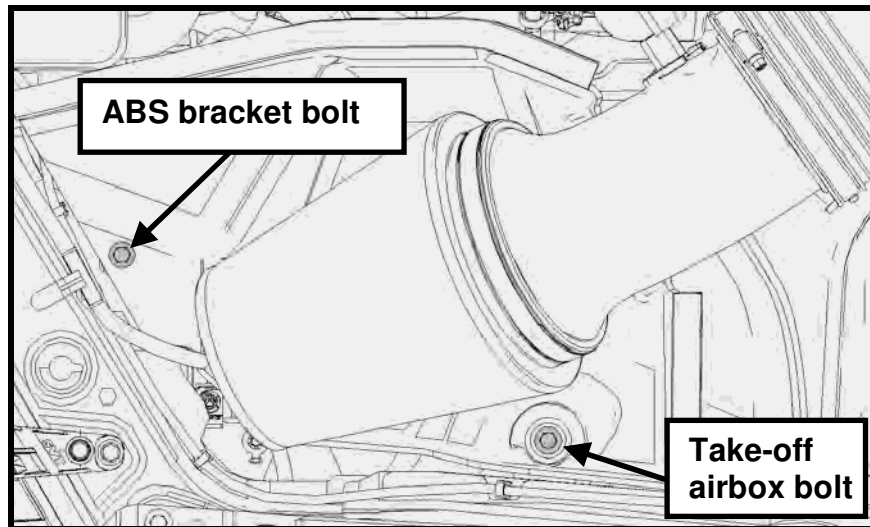

Fig. 11
STEP 8: Lower the complete airbox assembly into the vehicle using the two pegs as guides into the rubber grommets. Use the take-off airbox bolt and newly supplied ABS bracket bolt (N808920) to secure the airbox in the vehicle. Torque the M6 bolt to 10 Nm (88 lb in), and the M8 bolt to 25 Nm (221 lb in) (See Fig. 11).